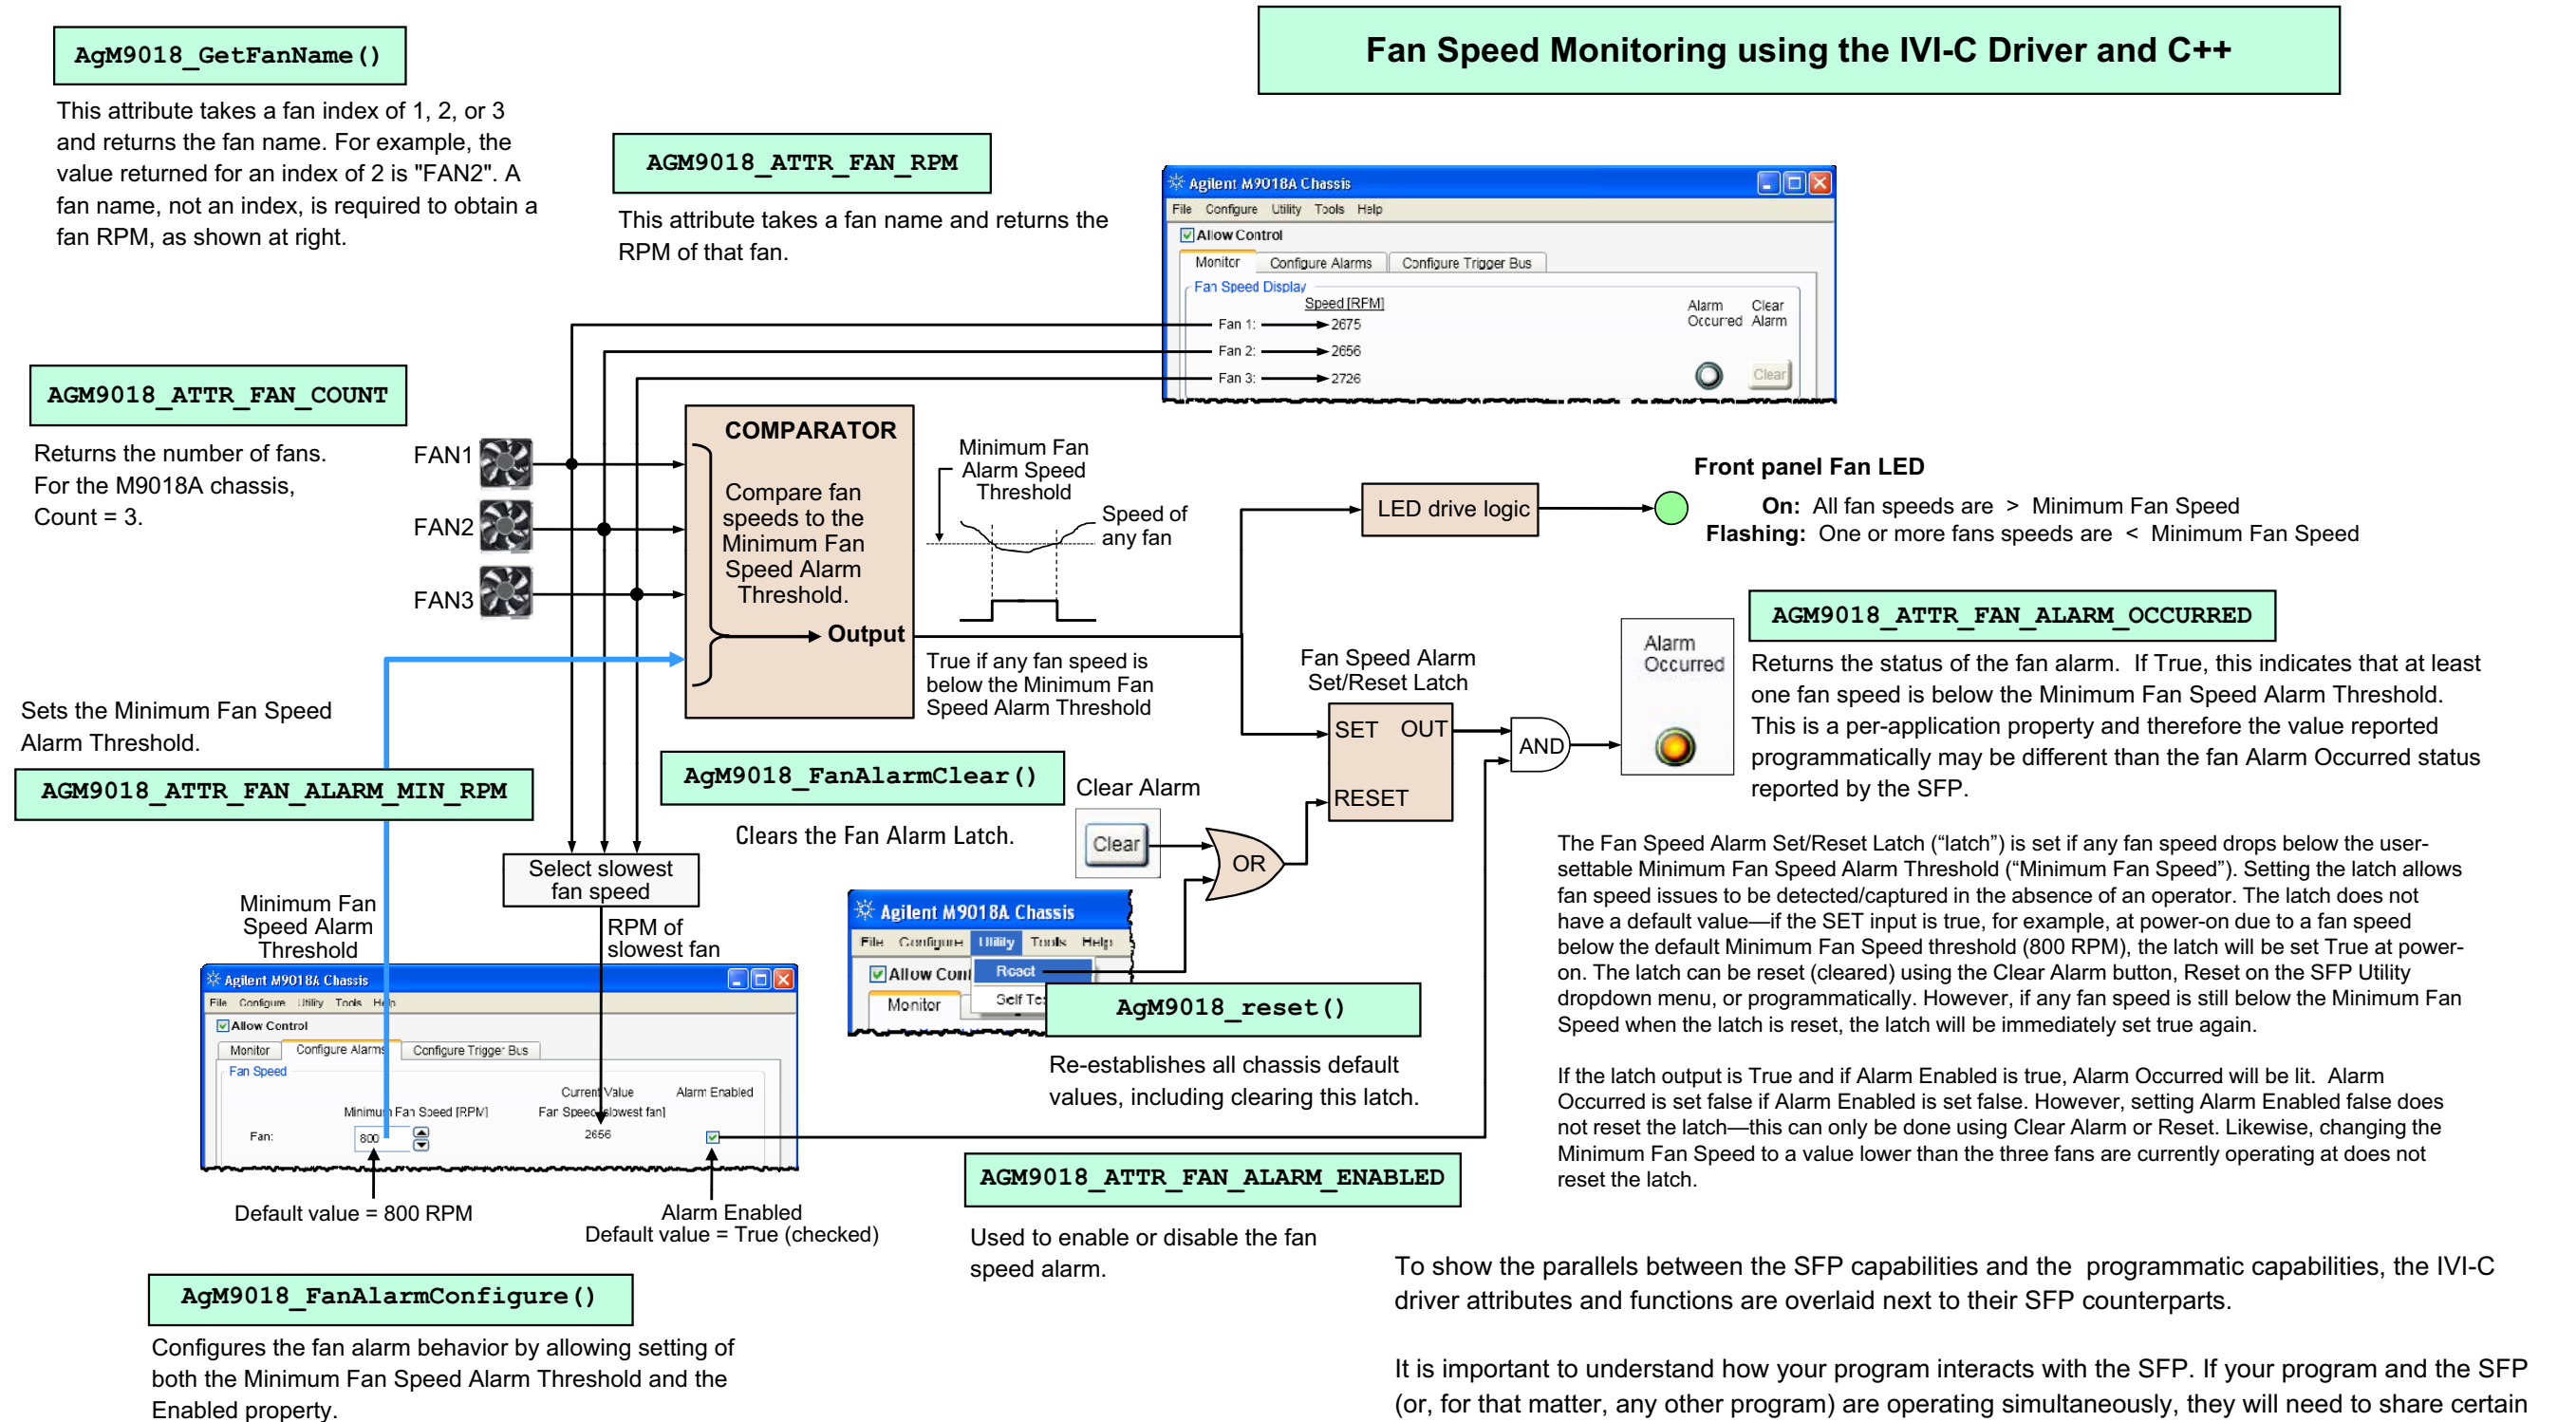

Figure 19
- IVI-C driver and C++ – Figure 19 on page 42